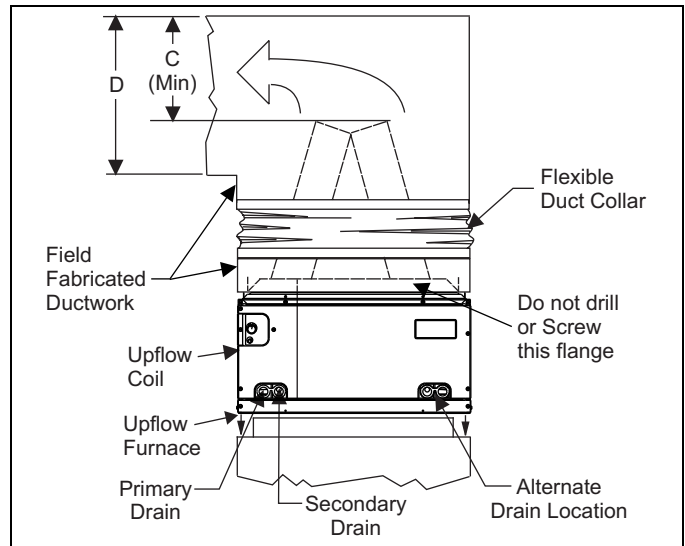

FIGURE 6: PC Series Upflow Coil Installation
1. Position the coil casing over the furnace opening as shown in Figure 6.
*Do not drill any holes or drive any screws into the front duct flange on the coil in order to prevent damaging coil tubing. See Figure 6.*
Dimension "C" should be at least 2/3 of dimension "D". See Figure 6.